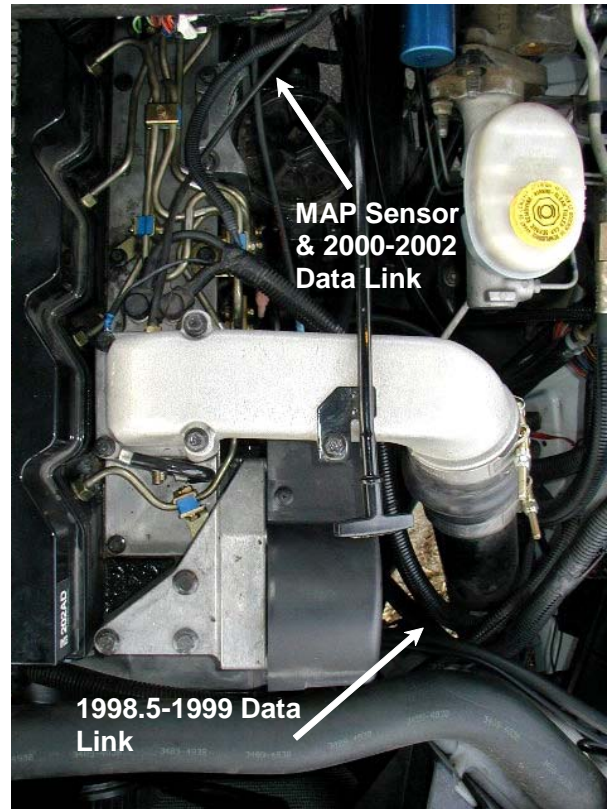

Figure 8
1. Disconnect the stock wiring harness from the boost sensor located to the rear of the fuel filter housing near the top of and on the engine block. Plug the supplied MAP sensor connector into the boost sensor and the engine wiring harness connector into the supplied MAP sensor connector. The MAP sensor shown in the image is for a 2001, the 1998.5-2000 are a different sensor but in the same location. See figure 8 and 9.